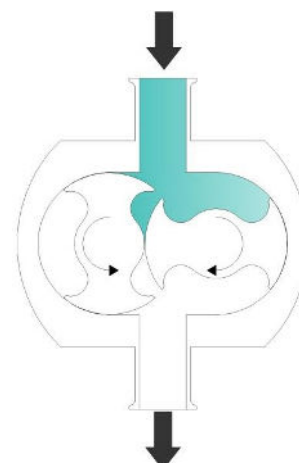

Figure 14 - Direction of rotation - viewed from pump head (Principle applies to all mounting orientations)
- Check the motor is wired for the correct direction of rotation (Figure 14 and Table 3 - Direction of flow)